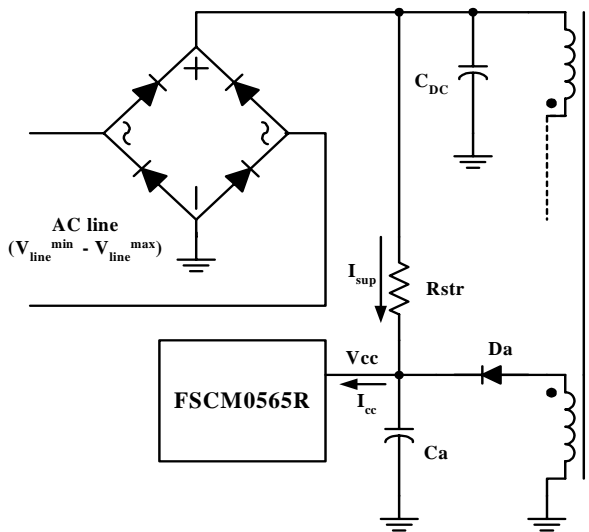
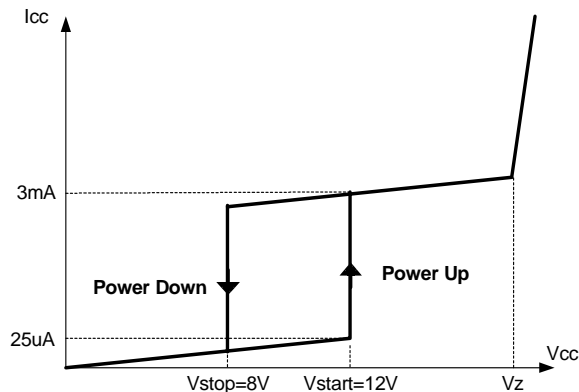

Figure 4. Startup circuit
Figure 5. Relation between operating supply current and Vcc voltage
**1. Startup :** Figure 4 shows the typical startup circuit and transformer auxiliary winding for FSCM0565R application. Before FSCM0565R begins switching, FSCM0565R consumes only startup current (typically 25uA) and the current supplied from the DC link supply current consumed by FPS ( $I_{cc}$ ) and charges the external capacitor ( $C_a$ ) that is connected to the Vcc pin. When Vcc reaches start voltage of 12V ( $V_{START}$ ), FSCM0565R begins switching, and the current consumed by FSCM0565R increases to 3mA. Then, FSCM0565R continues its normal switching operation and the power required for this device is supplied from the transformer auxiliary winding, unless Vcc drops below the stop voltage of 8V ( $V_{STOP}$ ). To guarantee the stable operation of the control IC, Vcc has under voltage lockout (UVLO) with 4V hysteresis. Figure 5 shows the relation between the current consumed by FPS ( $I_{cc}$ ) and the supply voltage (Vcc).